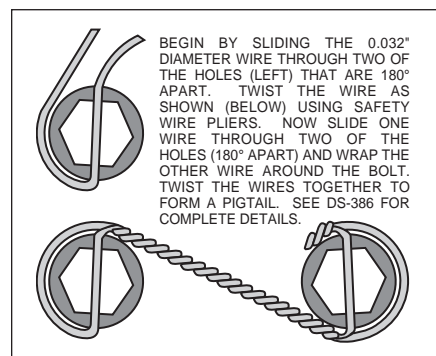

Figure 2. Safety Wire Diagram
- Orient the rotor (5) and the hat (6) as shown in Figure 1. Attach rotor to hat using bolts (7) and washers (8). Using an alternating sequence, apply red *Loctite*® 271 to the threads, and torque to 155 **in-lbs**. For an added measure of security, the bolts may be safety wired using standard 0.032 inch diameter stainless steel safety wire as shown in Figure 2. Please refer to Wilwood's data sheet DS-386 (available at www.wilwood.com/Pdf/DataSheets/ds386.pdf) for complete safety wire installation instructions.